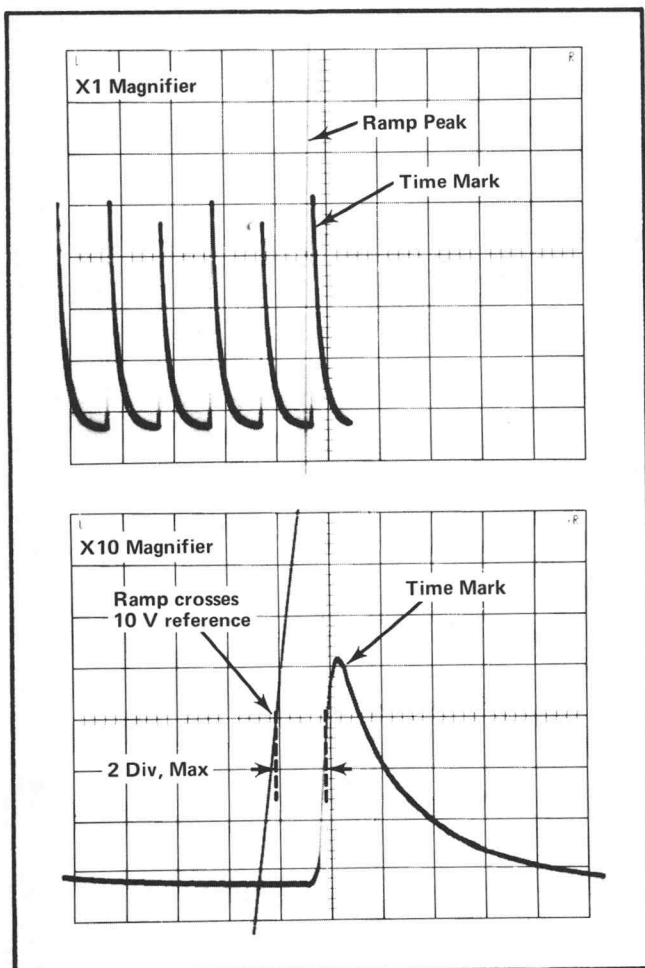

Fig. 5-3. Typical display of ramp and time marks for step 15.
h. Display ramp and time marks as shown in Fig. 5-3.